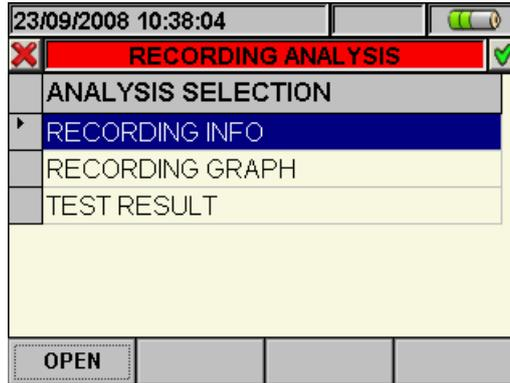

Fig. 134: Recording analysis (RegPV\*-type data)
2. Press the **ESC** key (or the smart icon ) to exit the function and go back to the "Recording analysis" page (Fig. 134).
Press the **ESC** key (or the smart icon on the display) to exit the function and go back to the "Recording analysis" page (Fig. 134).
2. Press the **ESC** key (or the smart icon ) to exit the function and go back to the “Recording Analysis” page (Fig. 134).